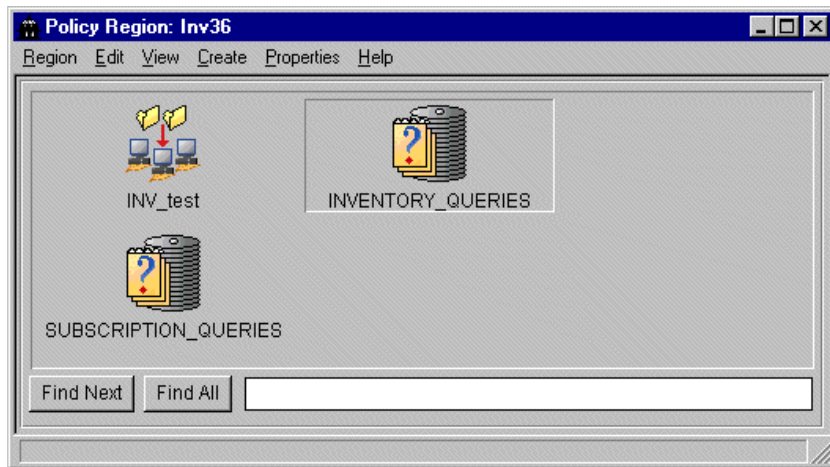

Figure 321. Inventory queries library
6. When the distribution has finished, we can query the results using the INVENTORY_QUERIES query library in the inventory policy region as shown in Figure 321 on page 487.